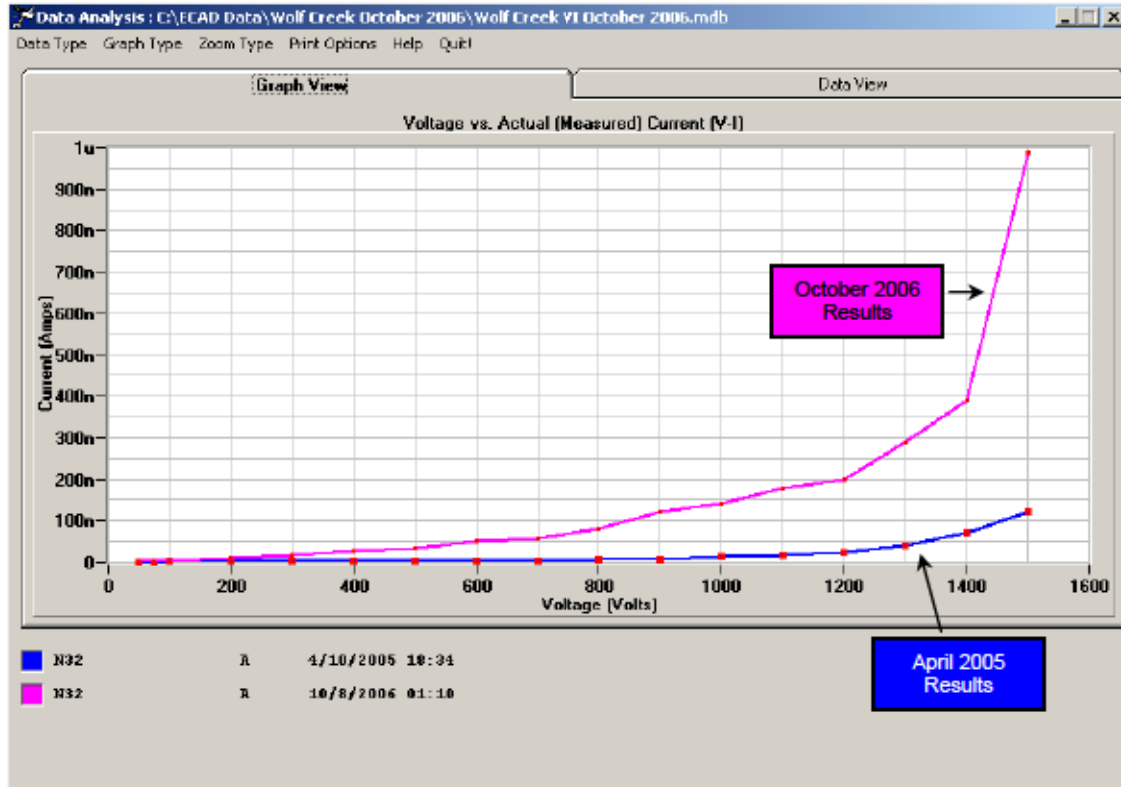

Figure 13. V-I Test Results Can Be Compared Graphically.
Data analysis software is provided to allow comparisons of up to eight (8) sets of data. Figure 13 shows an example of comparing two data sets – the blue curve, acquired during the April 2005 refueling outage, and the pink curve, acquired during the October 2006 refueling outage.